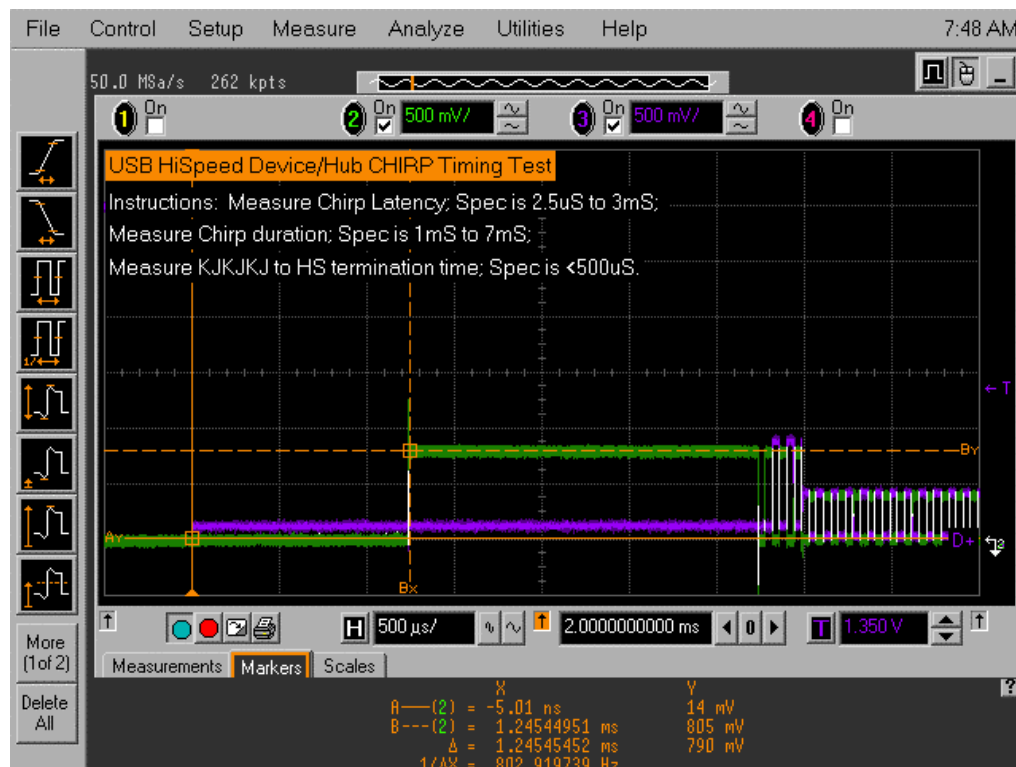

Figure 17. Device CHIRP-K Latency
- b. If in question of the measurement, use the markers to make this measurement manually, as shown in Figure 17.